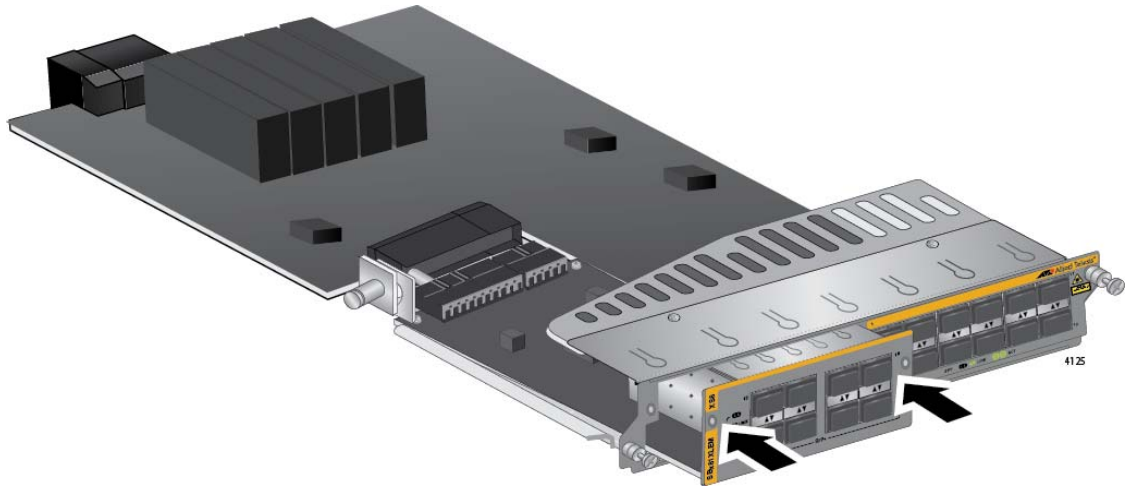

Figure 80. Seating the Expansion Module on the Connector in the AT-SBx81XLEM Line Card
- When the expansion module makes contact with the connector inside the line card, gently press on both sides of the faceplate to seat the module on the connector. Refer to Figure 80 on page 151. The module is fully installed when its faceplate is flush against the faceplate of the AT-SBx81XLEM Line Card.